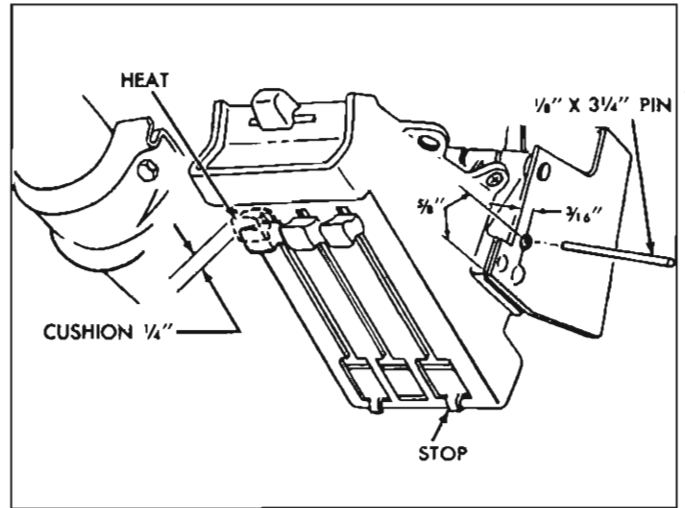

Fig. 11-4—Control Assembly
- a. Pull the HEAT and AIR knobs into the **fully up** position and insert the pin (fig. 11-4) in place in the control assembly.